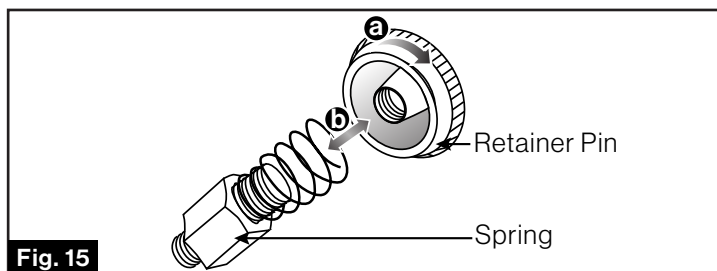

Fig. 15
- Rotate the retainer pin by anticlockwise to remove the spring. (Fig. 15)